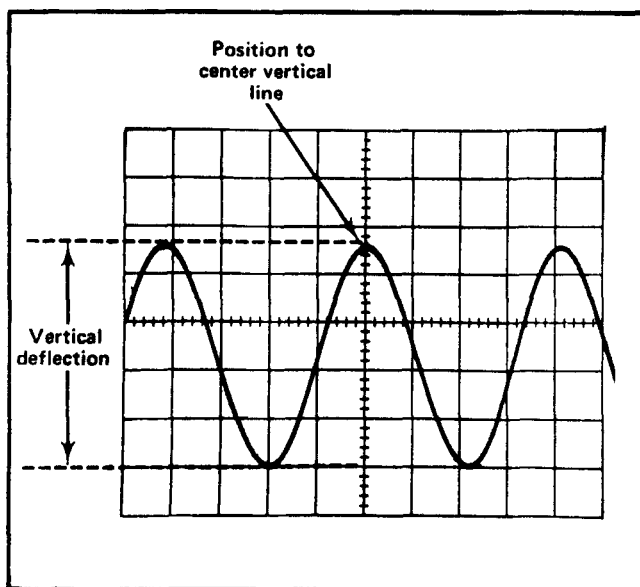

Fig. 2-7. Measuring peak-to-peak voltage of a waveform.
6. Turn the vertical POSITION control so the lower portion of the waveform coincides with one of the graticule lines below the center horizontal line, and the top of the waveform is on the viewing area. With the horizontal POSITION control, move the display so one of the upper peaks lies near the center vertical line (see Fig. 2-7).
EXAMPLE. Assume that the peak-to-peak vertical deflection is 4.6 divisions (see Fig. 2-7) with a VOLTS/DIV switch setting of .5 V.